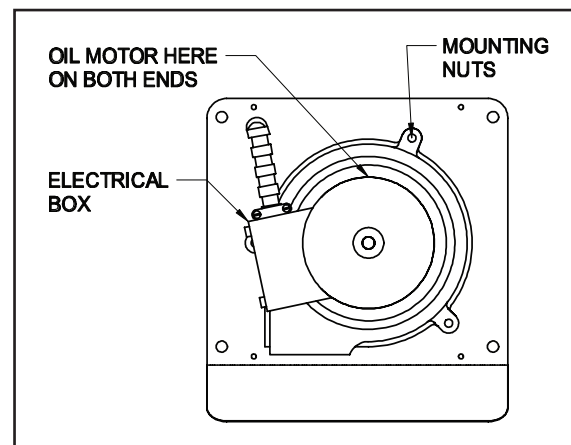

Figure 19
3. Open the electrical box on the motor and disconnect the conduit and wires from the motor. (See Figure 19)
1. Align the holes in the circular cover plate with the holes in the motor mount bracket on the motor assembly. (See Figure 19)